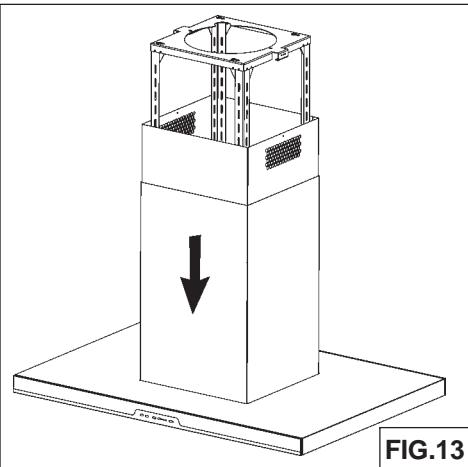
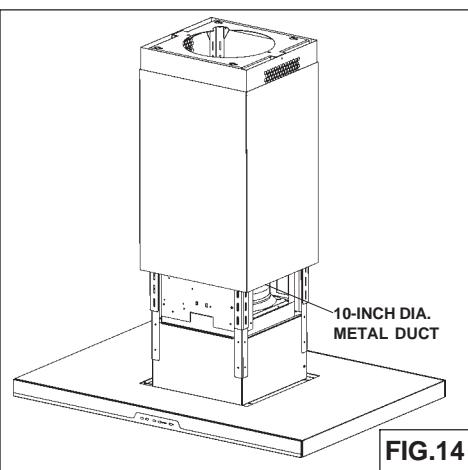

FIG.13
FIG.14
1. Insert the **upper flue and lower flue** in the support frame (Fig.13).
2. Mount the hood to the ceiling using the (4) previously installed 6x60mm screws. Tighten these screws. Install (2) additional 6x60mm screws as shown in the illustration. Make sure all (6) screws are secure.
3. Use **8" round metal duct** to connect the duct collar on the hood to the ductwork above (Fig.14).